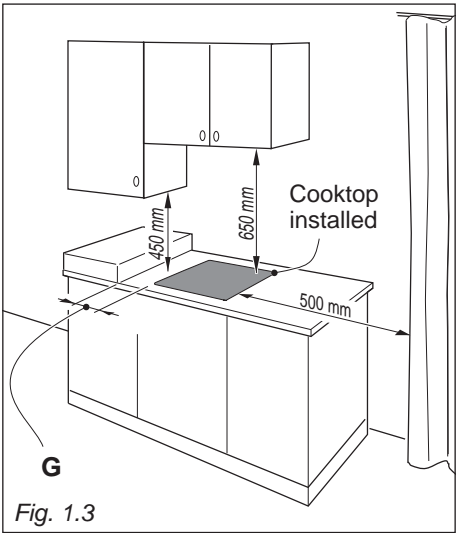

Fig. 1.3
- there must be a distance of at least 650 mm between the hob and any wall cupboard or extractor hood positioned immediately above (see fig. 1.3);